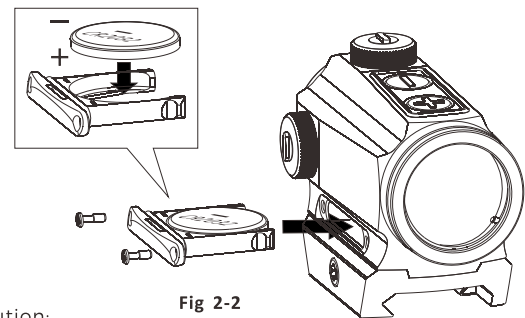

Fig 2-2
2) Battery installation (Fig2-2):